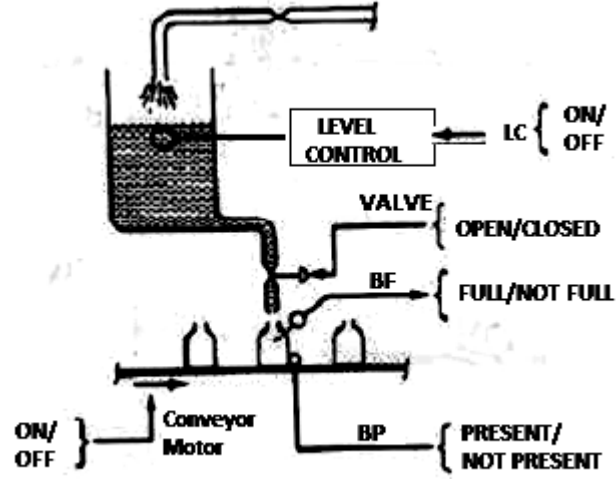

Fig. 1
- Q.4** (a) Prepare event sequence, list I/O devices with their addresses and construct PLC ladder diagram for the process shown in Fig. 1 **07**